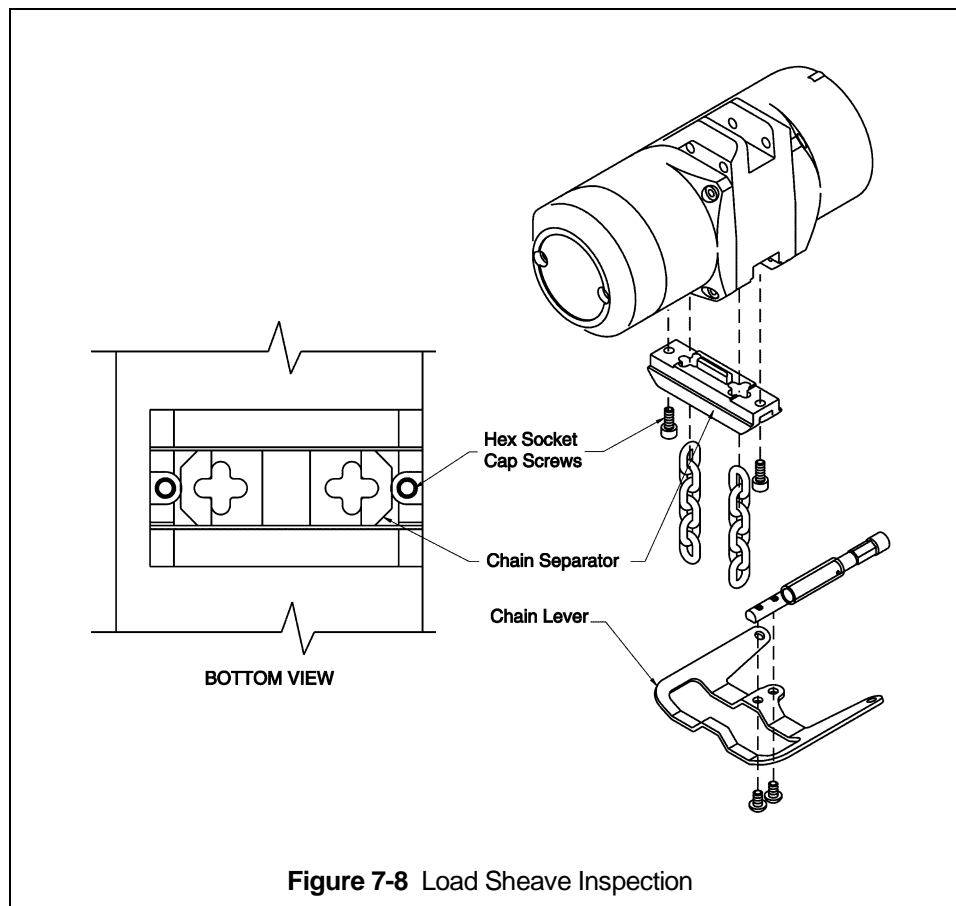

Figure 7-8 Load Sheave Inspection
7.5.1 Perform this inspection by removing the chain separator (lower chain guide) and viewing the load sheave while operating the hoist slowly, with no load, and in accordance with Section 4 "Operation". Refer to Figure 7-8 and remove the chain separator as follows: